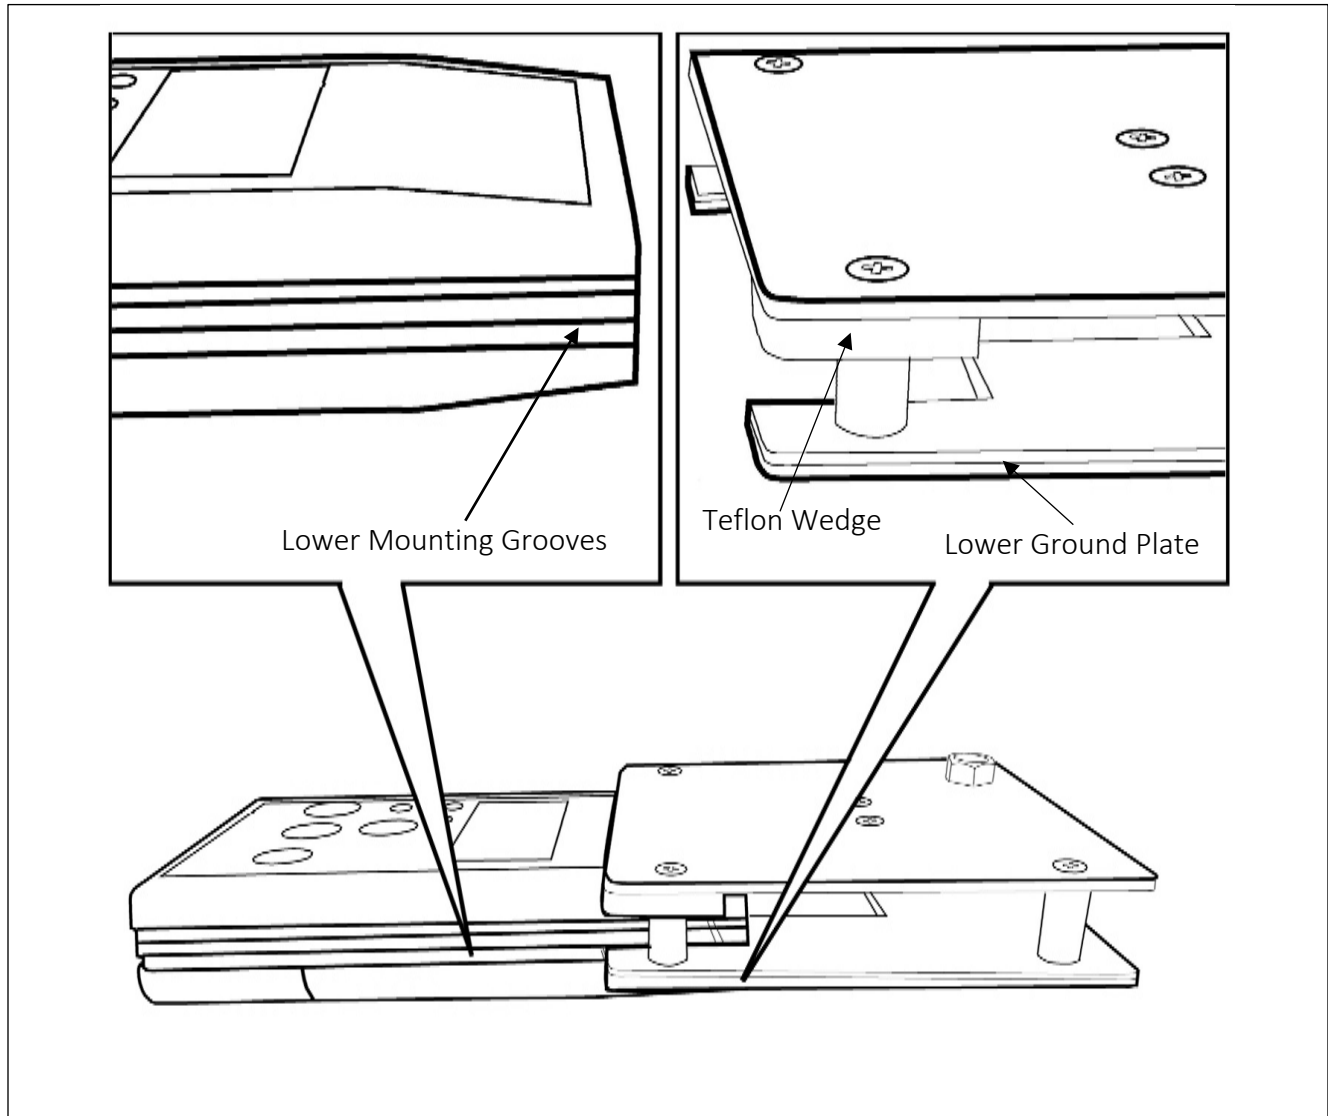

Figure 5. The CPM-720B's mounted onto the PFM-711B
6. Carefully slide the plate towards the meter's sensor until the plate assembly is fully mounted to the PFM-711B (Figure 5).